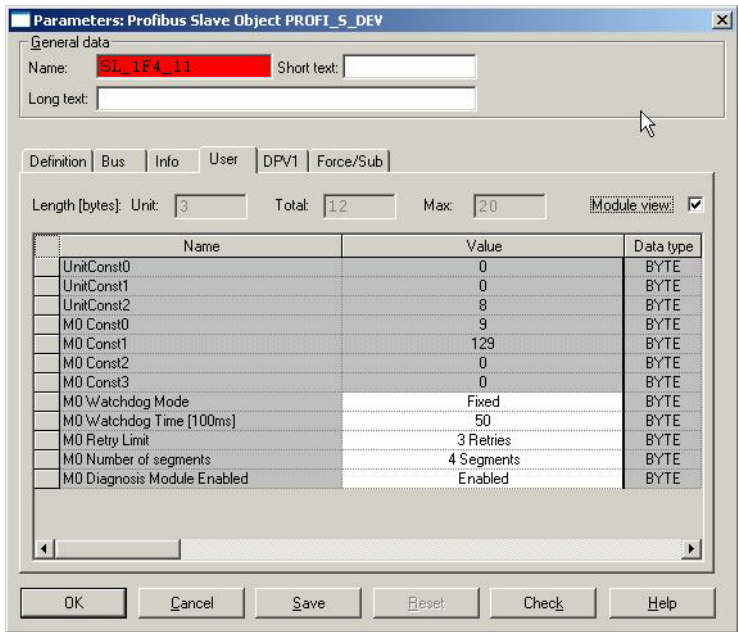

Figure 15. Freelance 800F - Gateway Configuration
- Set the following parameters1 for the PROFIBUS Power Hub gateway according to Table 4 as shown in Figure 15: